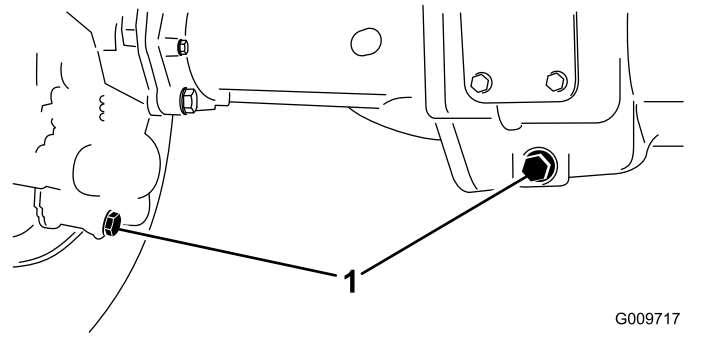

Figure 89
2. Clean the area around the 3 drain plugs, 1 on each end and 1 in the center (Figure 89).